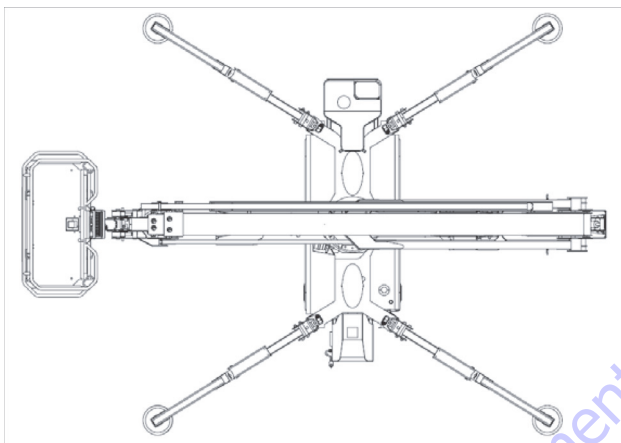

Figure 3-80. Cover position engine X17JP/X500AJ X20JP/X600AJ
1. Place and stabilize the machine on a flat and level surface; for the models X17JP/X500AJ and X20JP/X600AJ rotate the turret 90° (Figure 3-80.), while for X26JP and X770AJ, keep the machine in stowed position